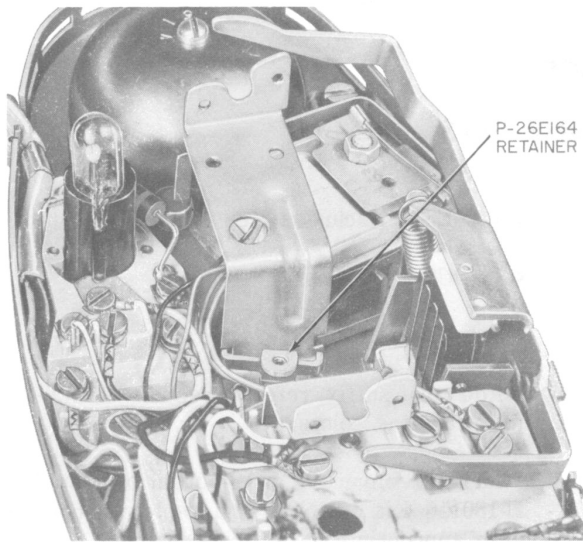
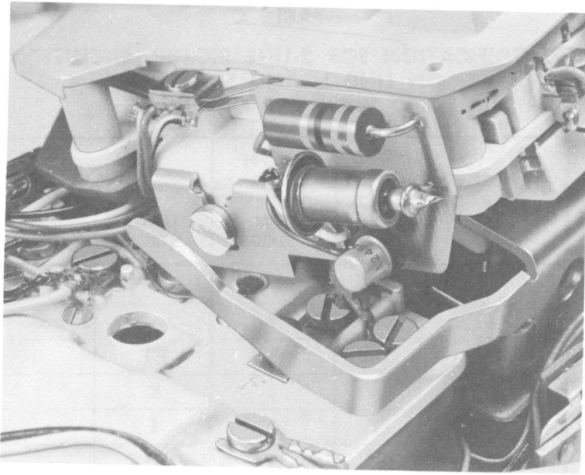

Fig. 2—Installing Terminal Board Retainer in PRINCESS Telephone Set
Fig. 3—Polarity Guard Mounted in PRINCESS Telephone Set
- (1) Remove housing; loosen dial mounting screw and move the dial to one side without disconnecting the dial leads.
- (2) Insert the P-26E164 retainer in left-hand dial mounting bracket (Fig. 2).
- (3) Insert tabs of P-21F675 terminal board into notches in right-hand dial mounting bracket and secure to retainer using P-43A392 screw.
- (4) Connect polarity guard in accordance with Table A.
- (5) Reinstall dial on mounting bracket, securing the P-90D054 guard assembly mounting bracket under the right-hand dial mounting screw (Fig. 3).
- (6) Reinstall housing.